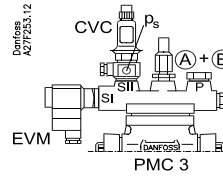

Fig. 9
2. EVM in SI, CVC in SII, plug A+B in P: Modulating capacity control combined with valve closed override. See figs. 9 and 10.